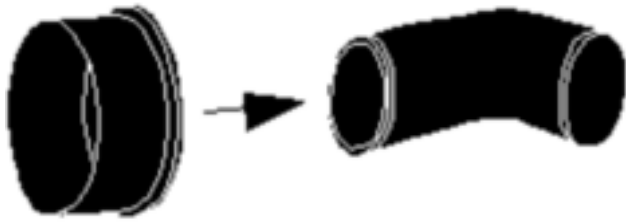

fig. 2
- 5) Install the rubber velocity adapter onto the long end of the new intake tube. (see fig.2)